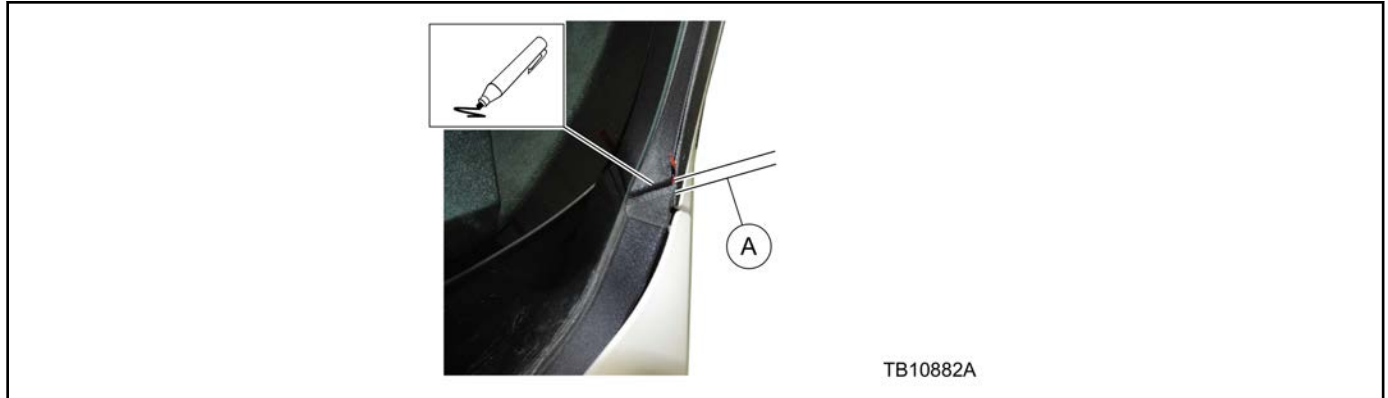

Figure 2 - Article 16-0088
- a. Using a sliding caliper or other suitable measuring device, position the stuffer so the bottom of the stuffer is approximately 6 mm (1/4") from the cowl panel grille, dimension A. (Figure 2)
- c. Using a suitable marking device, mark dimension A on the windshield moulding where the bottom of the stuffer is to be located for best fit. (Figure 2)